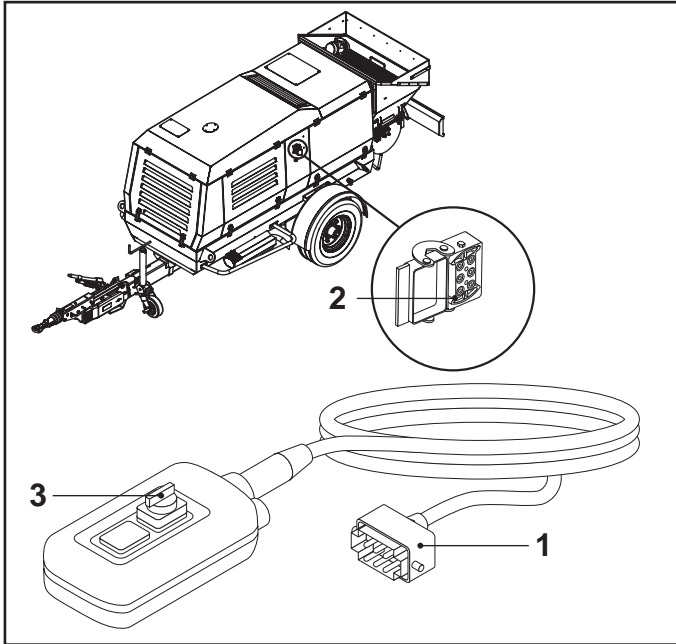

FIG.17
- Insert the plug (FIG.17-REF.1) in the connector's socket (FIG.17-REF.2) located on the machine's bodywork.
- Activate the mortar pump by placing the selector switch (FIG.17-REF.3) at 1, at 0 to stop pumping and at 2 to reverse rotation direction.